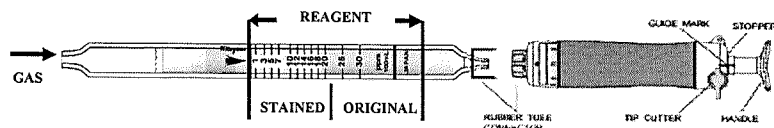

Fig. 1
- ① Break both ends of the detector tube.
- ② Insert the detector tube into the aspirating pump securely as shown in Fig.1. (Arrow mark shall point to the pump.)
- ③ Align the guide marks on the shaft and stopper of the aspirating pump.
- ④ Pull the pump handle at a full stroke until it locks and wait for 3 minutes or until the completion of sampling is confirmed with the flow indicator of the pump. (See descriptions about the flow indicator in the instruction manual of the pump.)
- ⑤ On completion of sampling, read the scale at the maximum point of the stained layer.